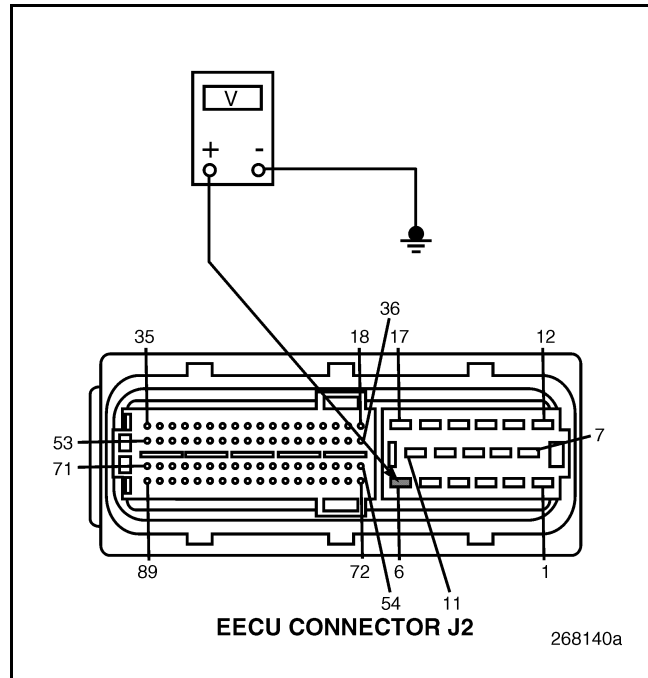

Figure 733
4. Measure the voltage between EECU connector J2 pin 6 and a good ground (see Figure 733).